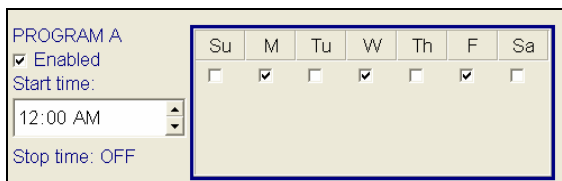

Figure 16.1.9D
- Check a box for each day of the week that you want the program to irrigate on (Figure 16.1.9D).